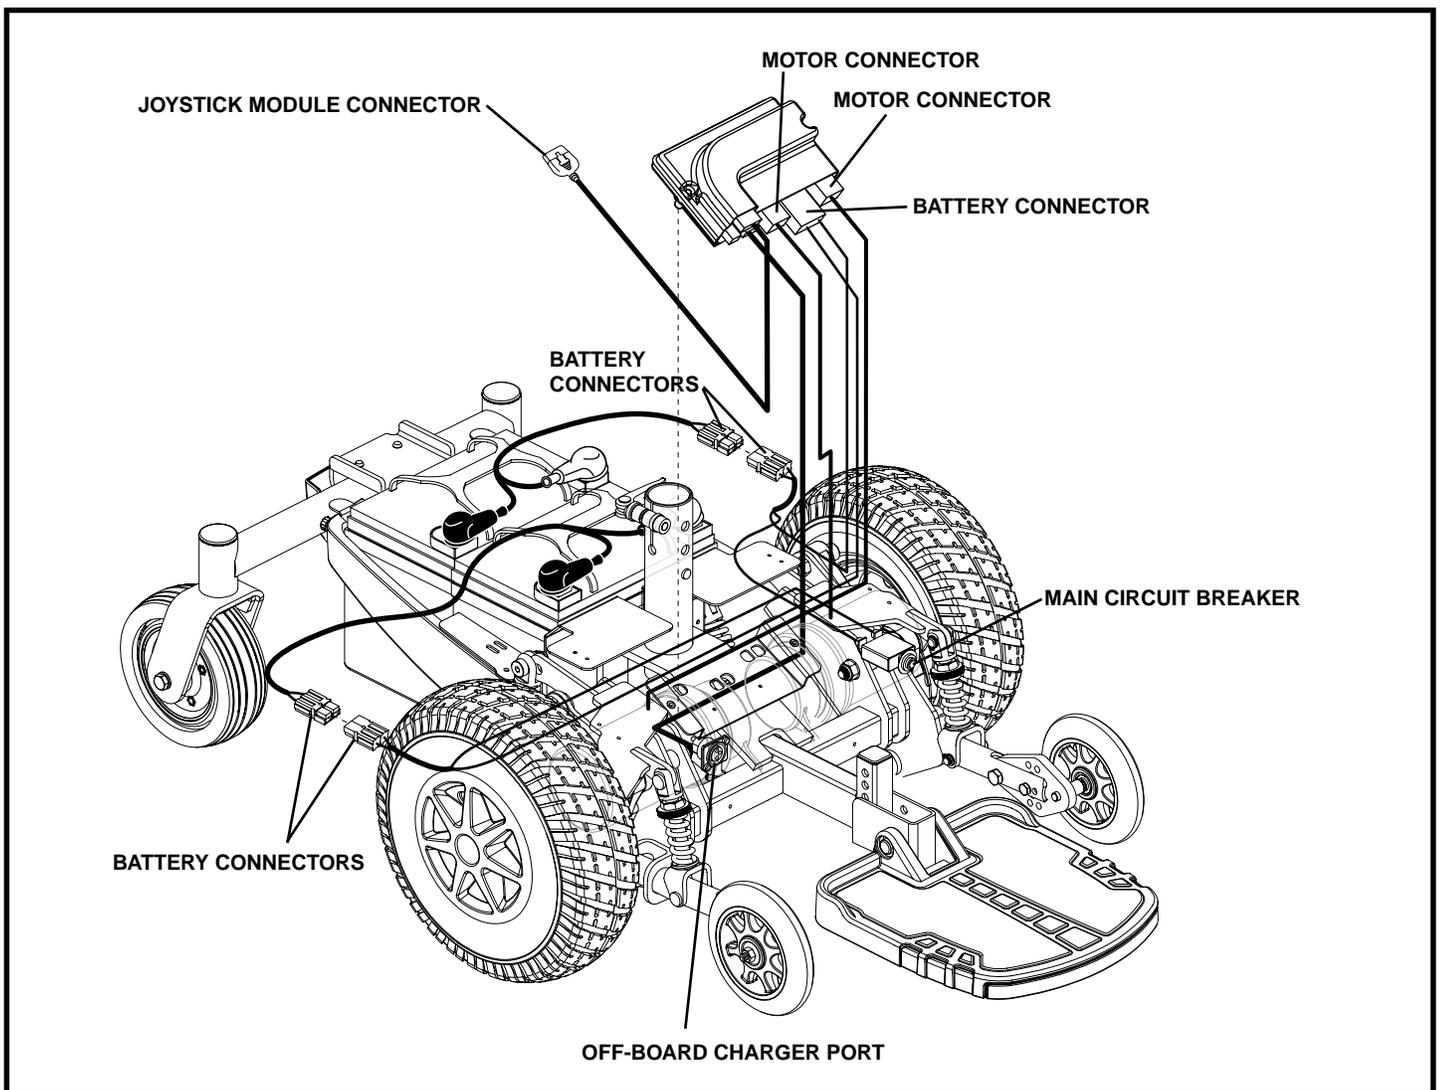

Figure 7. Jazy Select Electrical Components
2. Make sure that the power chair is in drive mode. See figure 7.